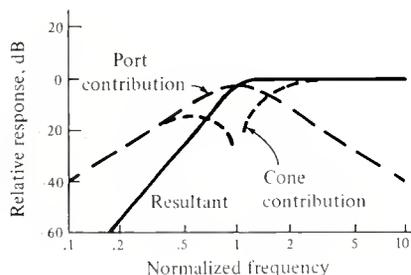

Figure 1. Relative Output from Cone and Port in a Ported System.
• Ported, or bass reflex speaker systems have been around since the earliest days of the dynamic loudspeaker. Their designs were more often “cut and try” than rational, and bad “boomy” systems were more common than good ones. The main advantage of a properly-ported system over a sealed one is the reduction of distortion at low frequencies. This is shown in FIGURE 1.